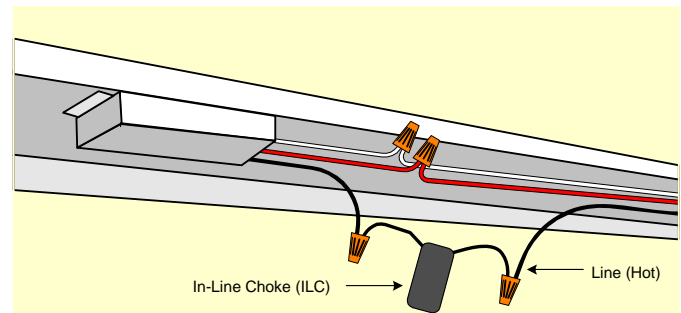

Figure 3: Connect the ILC in line
4. Install the ILC between the two open wires (Figure 3). The ILC can be wired in either direction. Use appropriate wire nuts to make a good electrical connection.